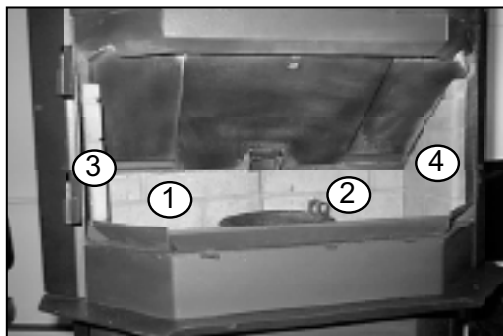

Figure 19.3
6. Complete brick set, correctly installed. **Figure 19.3.**